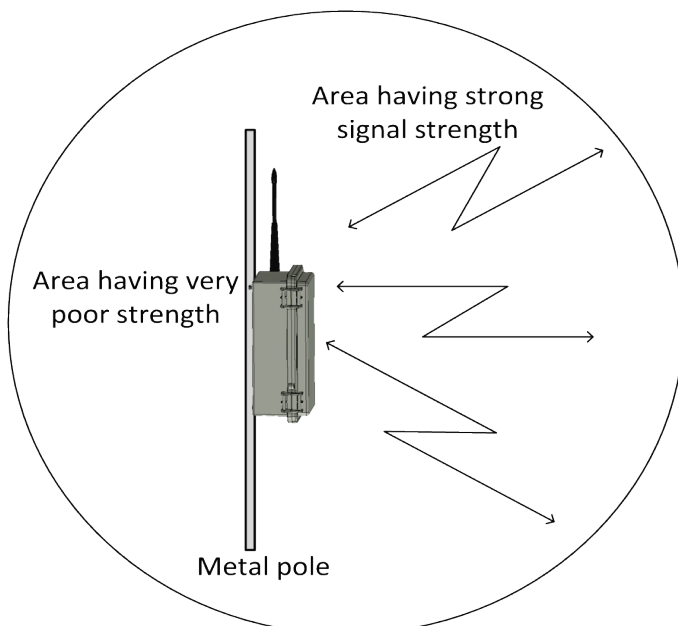

Figure 12: Transmission Area
- Install the RLINK ONE only on the side of the poles **facing** the main office. Signal strength **behind** the RLINK ONE is extremely poor (Figure 12).
NOTE If you are using a metal pole, refer to Figure 12.